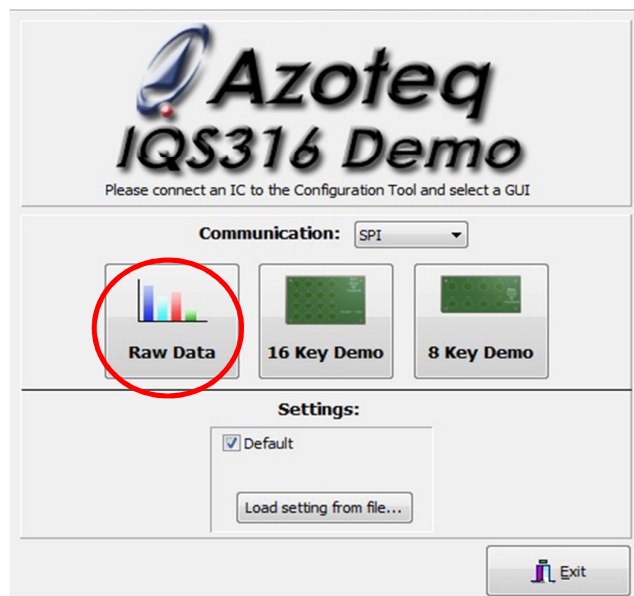

Figure 3.2 Start-up Screen for the IQS316 Demo GUI
- To enter the Raw Data mode, click on “Raw Data” on the IQS316 Demo GUI start-up screen, as indicated in Figure 3.2.